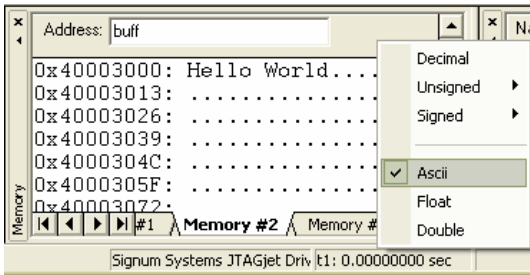

FIGURE 32 The `buff[]` variable, displayed in ASCII format, contains the “Hello World” string.
6. Set a second breakpoint on line 11 in the `main.c` module. Then run the application code once again. This time the code copying the string “Hello World” to the variable `buff[]` is executed. The application stops at line 11 in `main.c` (address `0x400001DC` in Disassembly window). See Figure 32 below.
7. Verify that the contents of the `buff[]` variable in the Memory window has changed. Right-click in the window and select ASCII from a popup menu. The Memory window, now in the ASCII mode, shows that the string “Hello World” has been copied to the variable (Figure 32).